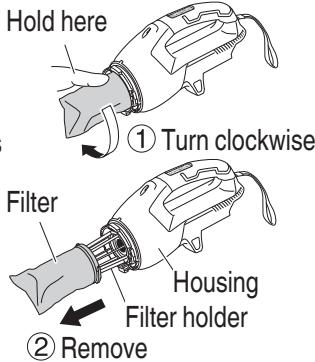

Fig. 7
- (2) Remove the filter. (**Fig. 7**)